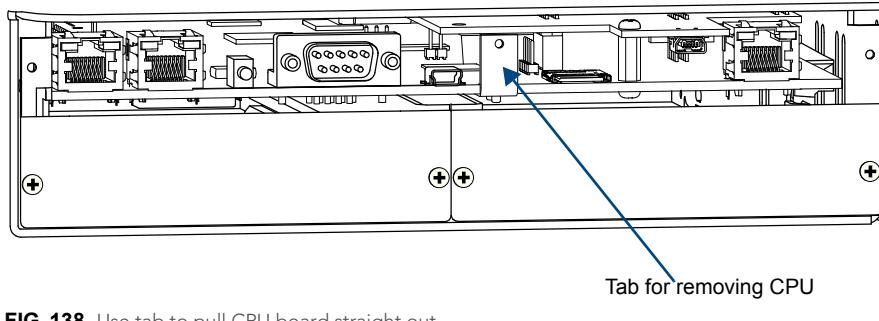

FIG. 138 Use tab to pull CPU board straight out
5. Use the tab indicated in FIG. 138 to pull the CPU board straight out of the enclosure.